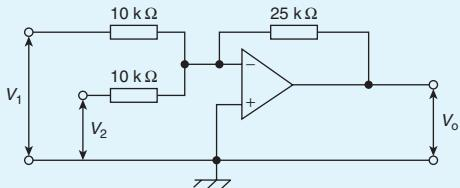

Figure 19.19
- In the circuit of Fig. 19.19, determine the value of the output voltage,  $V_o$ , when (a)  $V_1 = +1\text{ V}$  and  $V_2 = +3\text{ V}$  (b)  $V_1 = +1\text{ V}$  and  $V_2 = -3\text{ V}$